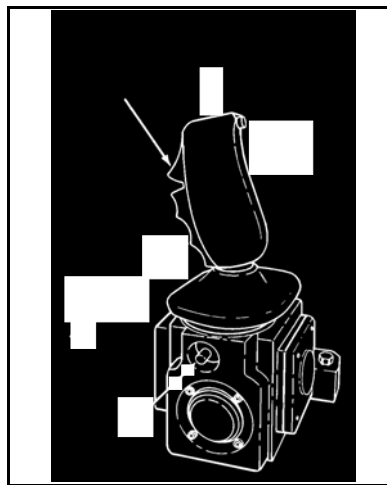

Figure 4. Commander's control handle.
- 3. Perform a function check on the 25-mm automatic gun using the commander's control handle (Figure 4).